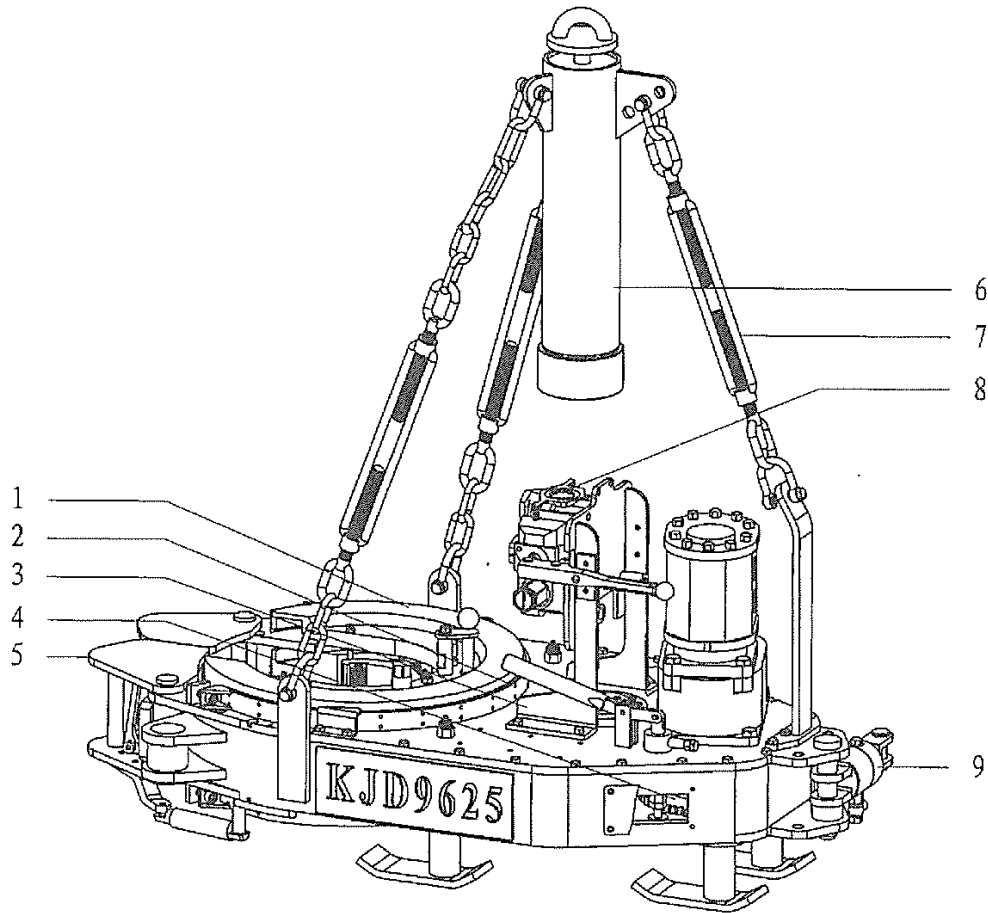

Fig3.
- 8.2 Master tong (Fig3. Table3)
8.2 Master tong (Fig3. Table3)